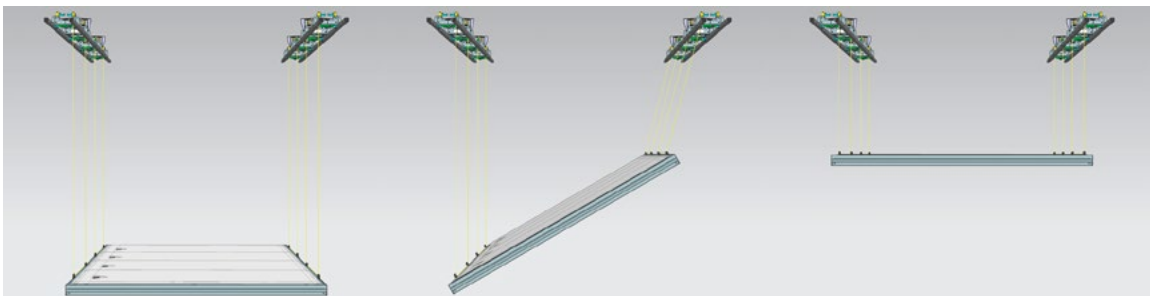

Figure 29: Stepwise hoisting or lowering the panel.
- In this stepwise fashion, lift or lower the panel from floor to ceiling or vice versa, see Figure 29.